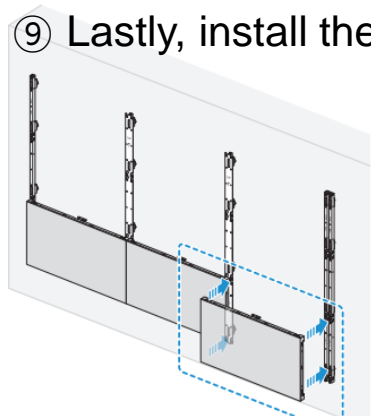

Fig.6 Installing cabinets
- ⑤ After installing the Bracket Center, install the lowest row cabinets. (See Fig.6.)